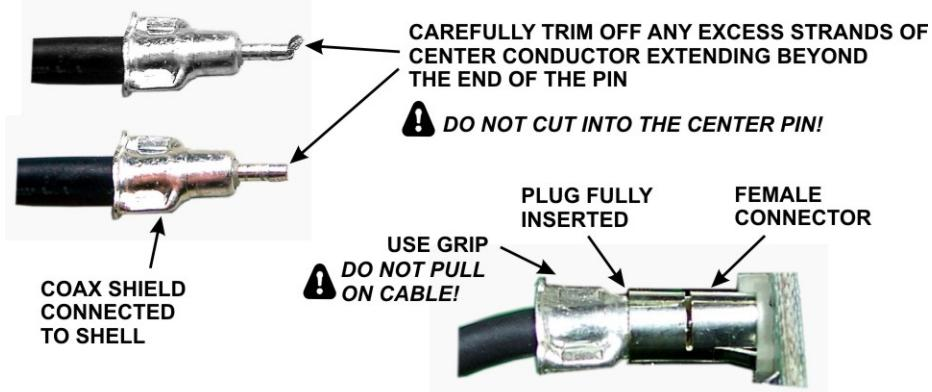

Figure 22. TMP Connectors.
- Locate the TMP coaxial cable. Plug one end into J902 on the RF board and the other end into RF IN, J100 on the front panel board. The connectors simply press into the sockets and are held in place by friction. If a connector refuses to engage, check for excess loose center conductor wires (see Figure 22).
The TMP connectors on the coaxial cable joining the front panel and RF boards are friction fit. To remove, pull on the metal ears on the connector. A slight twisting motion will help free a tight connector. **Pull on the metal ears. Do not pull on the coaxial cable** (see Figure 22 on page 68).